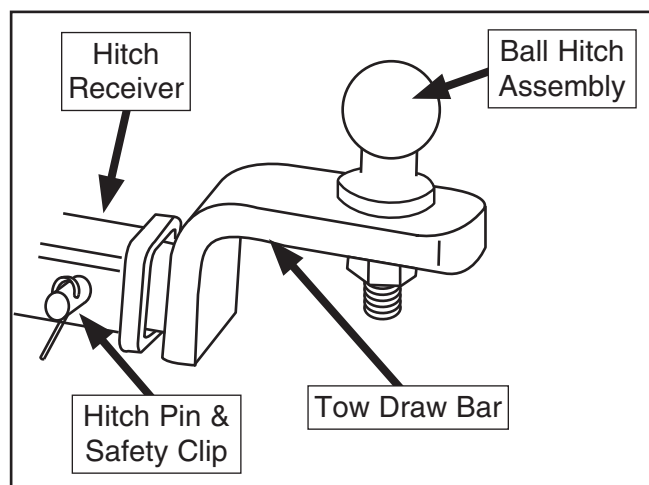

Figure 2. Tow draw bar installed in "upper" configuration.
2. Insert the shaft of the draw bar into the hitch receiver, install the $\frac{5}{8}$ " hitch pin (not included) through the hitch pin hole of both the receiver and draw bar, then secure it in place with the safety clip (see **Figure 2**).
Note: The tow draw bar can be installed into the hitch receiver in the "upper" configuration, as shown in **Figure 2**, or with the tongue in the "lower" configuration, depending on the height of the trailer hitch.